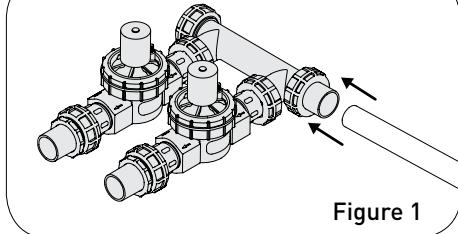

Figure 1
- For  $\frac{3}{4}$ " PVC pipe, connect directly to Swivel Adapter (C) (Figure 1)